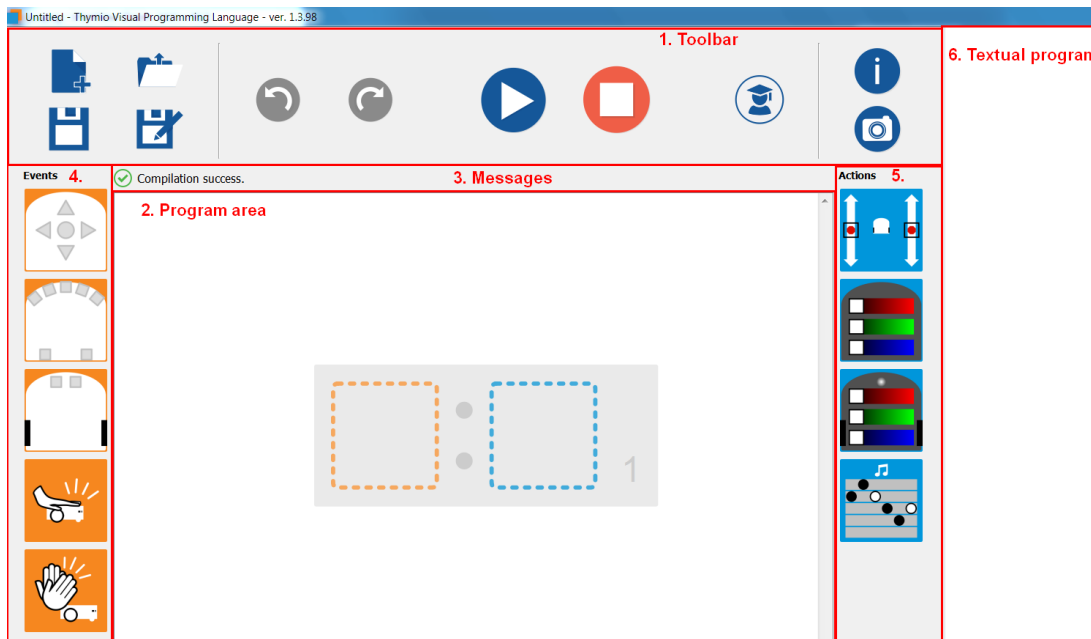

Figure 1.3: The VPL window
The user interface of VPL is shown in Figure 1.3. There are six areas in the interface:
To bring a block to the program area from the columns (areas 4 and 5 of Figure 1.3), press and hold the left mouse button and drag the block to a dashed square. When the block is over the square, release the mouse button, dropping the block into its place.
- If the event is exactly the same in two or more pairs, VPL will display an error message (in area 3 in Figure 1.3). You will not be able to run the program as long as there are errors.